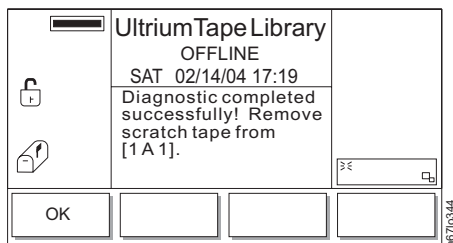

Figure 14-9. Command Now Complete Screen
12. When the tape is returned to the I/O Station, the Command Now Complete Screen displays (see Figure 14-9).